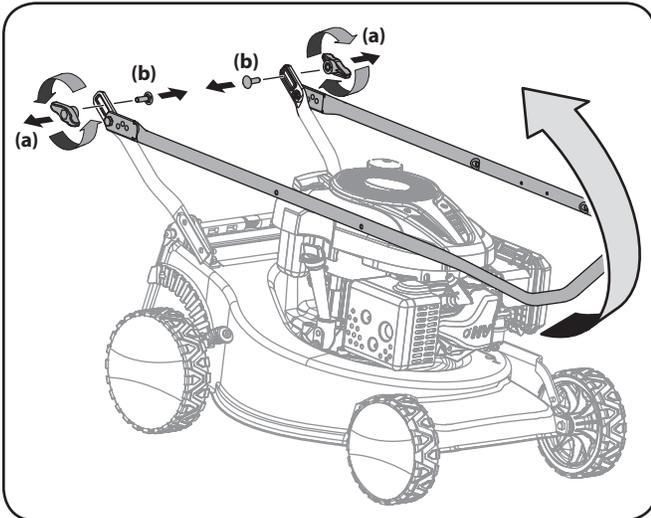

Figure 3-1
1. Remove the wing knob (a) and carriage bolt (b) from the lower handle. See Figure 3-1.
2. Pivot the upper handle into the operating position. See Figure 3-1.